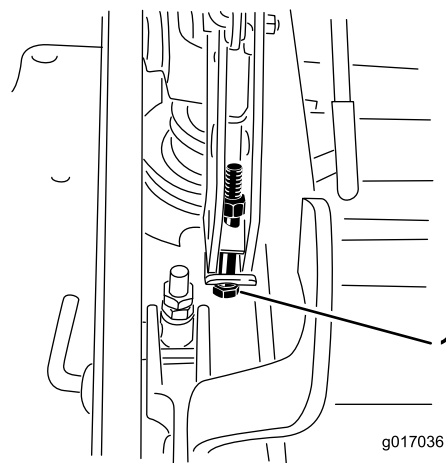

Figure 129
12. If the deck is too low, tighten the single-point-adjustment bolt by rotating it clockwise. If the deck is too high, loosen the single-point-adjustment bolt by rotating it counterclockwise (Figure 129).